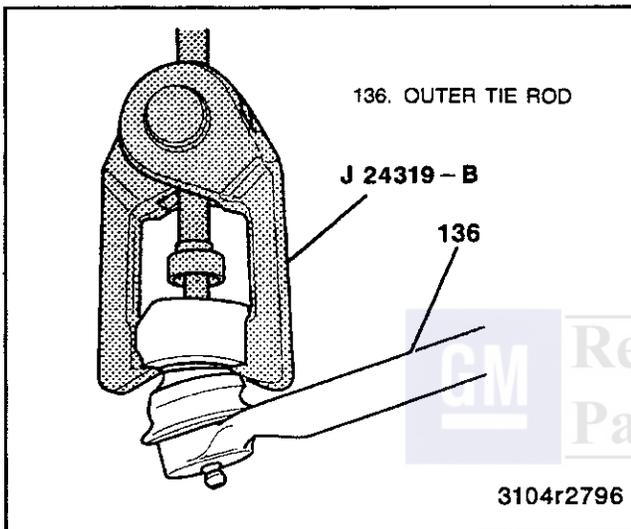

Figure 8—Disconnecting the Tie Rod
5. Separate the outer tie rod ball stud from the steering knuckle using J 24319-B (figure 8).